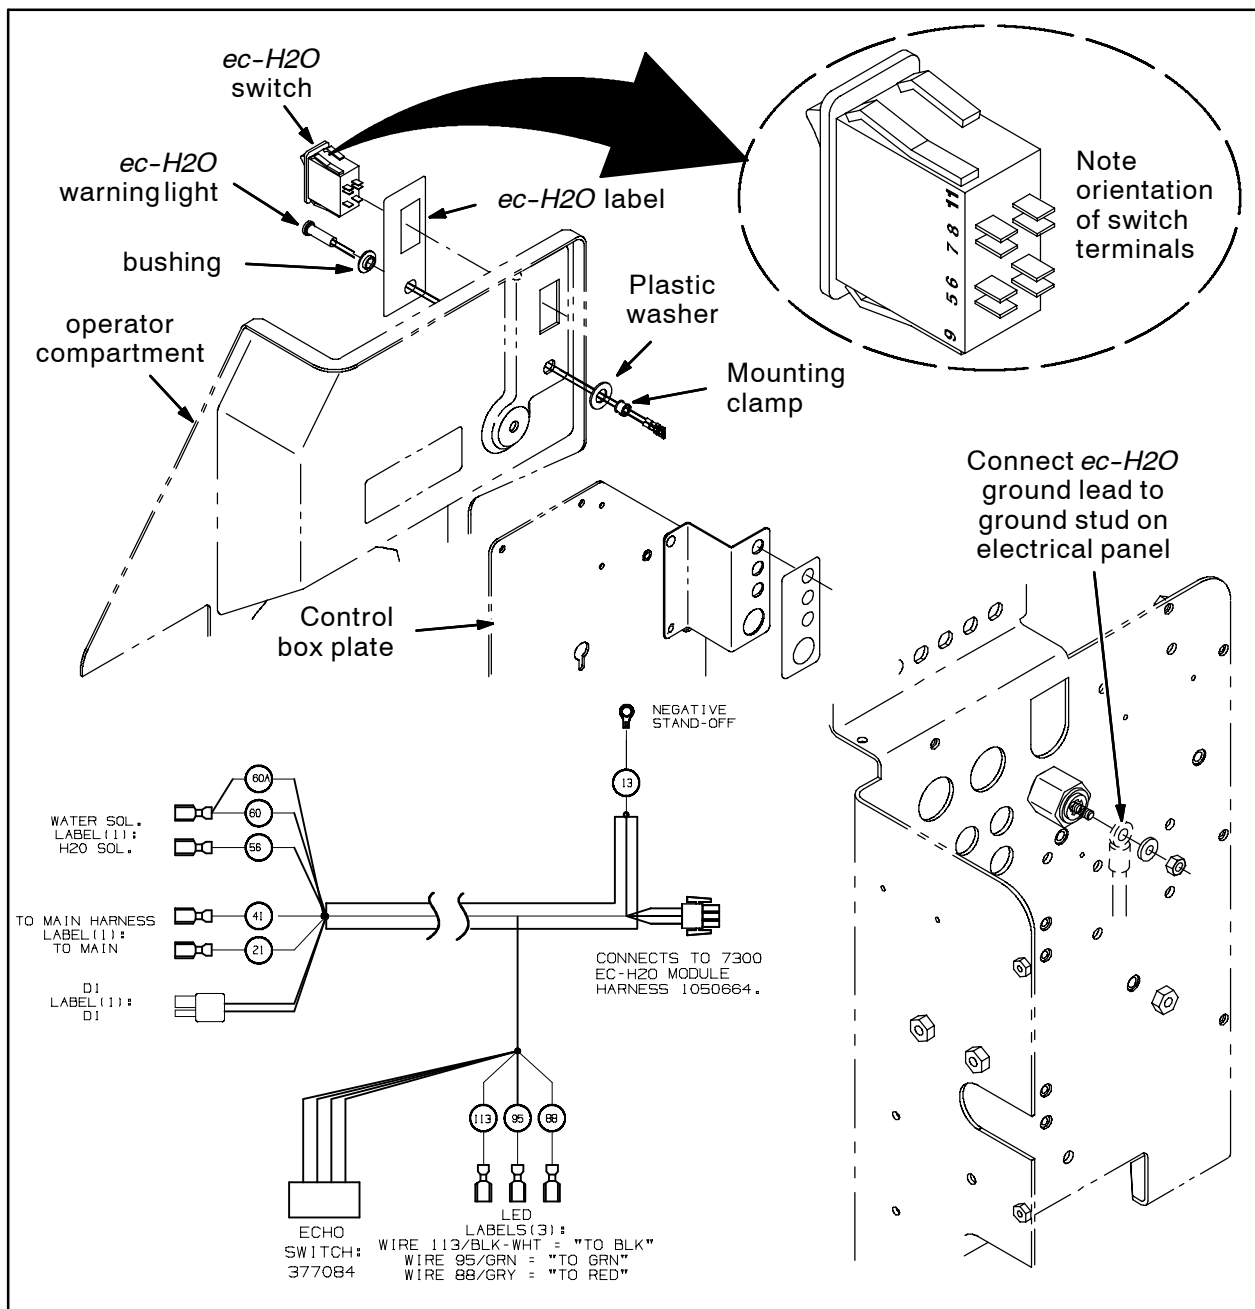

FIG. 8
11. Install the *ec-H2O* label over the FaST label on the operator compartment. Refer to Fig. 6, Fig. 7, and Fig. 8.
12. Install the *ec-H2O* switch into the operator compartment. Refer to Fig. 7 and Fig. 8.
13. Remove the mounting clamp from the *ec-H2O* warning light, slide the bushing onto the light, install the light into the operator compartment, and slide the plastic washer onto the light. Reinstall the mounting clamp to secure the light into place. Refer to Fig. 8.
15. Connect the *ec-H2O* harness to the light. Refer to Fig. 8.
16. Connect the *ec-H2O* harness to the switch. Refer to Fig. 8.
17. Connect the ground lead of the *ec-H2O* harness onto the ground stud in the control box plate. Refer to Fig. 8.